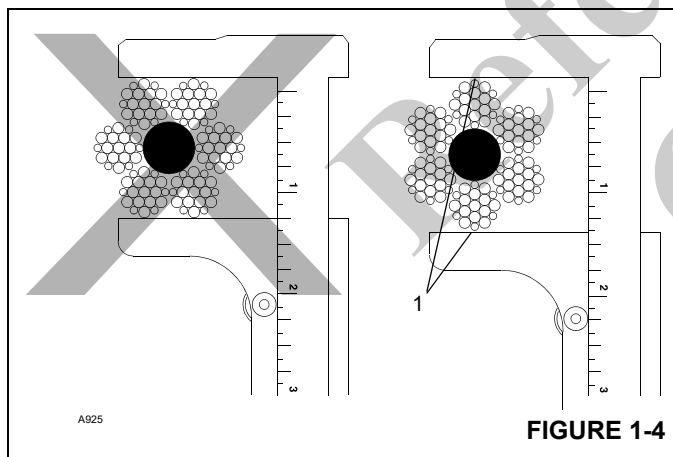

FIGURE 1-4
12. Measure the rope's diameter across crowns (1) of the strands when determining if rope has become damaged (Figure 1-4).